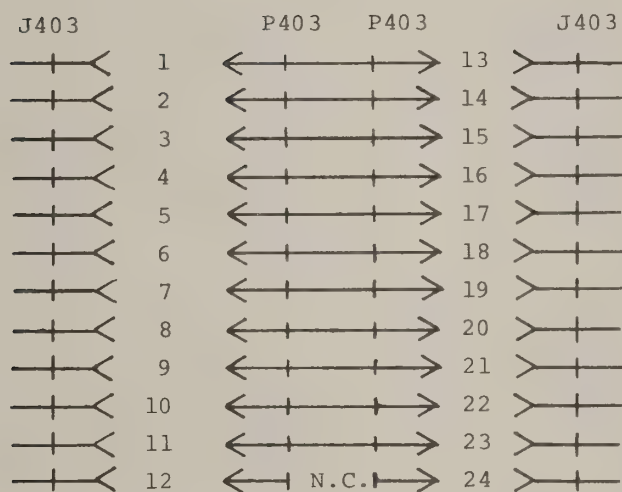

Figure 6-2. Motorola TLN8834A Channel Strapping
5.13 The Supervisory Logic Package of the Motorola MK series radio must be replaced with an MK/KS jumper plug, 6624-3265. Connect jumper JU-1 on the audio board. Model TUE1060A of the MK series requires the following modifications: configure the channel strapping circuit board, P403 (Motorola TLN 8834A), so that a straight-through connection is provided for each channel line in connector J403 as shown in figure 6-2. Alternately, replace TLN8834A with a TLN8839A channel strapping board.